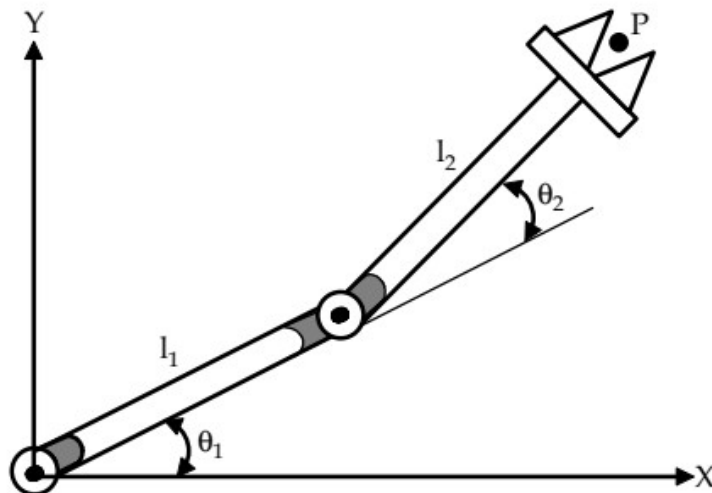

Figure Q5b
- (b) Apply the geometric approach (inverse kinematics) to determine the joint angles θ_1 and θ_2 for the planar manipulator of Figure Q5b